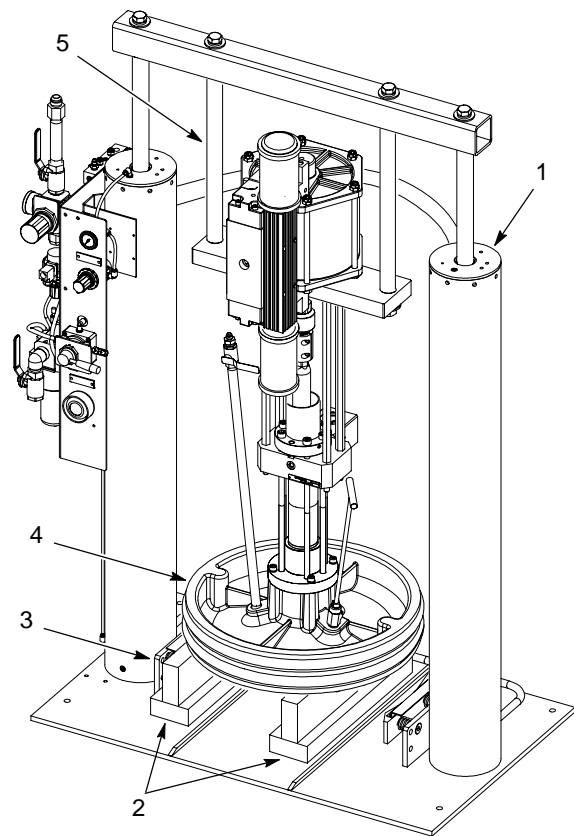

Figure 1 Blocking the Follower Plate
1. See Figure 1. Use blocks (2) to block the follower plate (4) high enough to keep it from contacting the drum hold down shoes (3). Make sure that the follower plate/air motor assembly is secure to prevent it from tipping.
3. Remove any device or bracket that is installed to the top of the cylinder heads (1) and mounting rods (5).